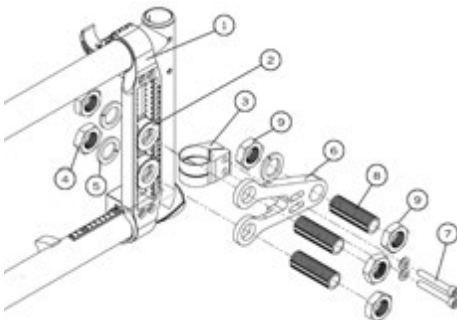

Fig. 43
- Install mounting plate (1) (Fig. 43) by closing the clamps around the frame.
- Insert a second axle receiver (2) on the axle plate.
- Install the back clamp (3) onto the rear of the frame.
- Insert two axle bushing (8) through axle plate (6) and in the two axle receiver (2) and secure with bolt and washer (4)(5).
- Insert two screws (7) into amputee axle plate through the mounting clamp and tighten.
- Insert axle bushing (8) through the amputee plate and tighten nuts (9).